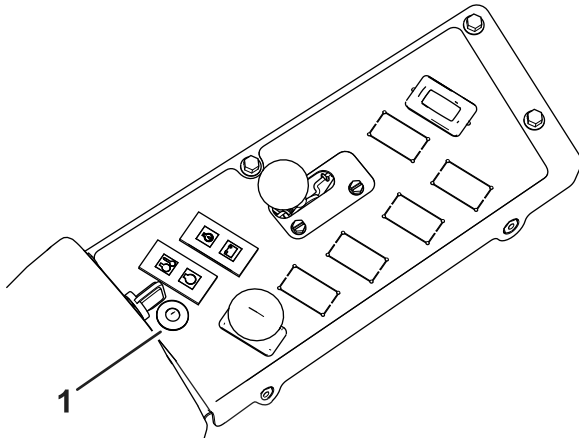

Figure 11
A. Console LED light (Figure 11):
- i. The LED light (Figure 11) blinks as the sensor calibrates.
The light and alarm indicates the severity of the slope (Figure 11):